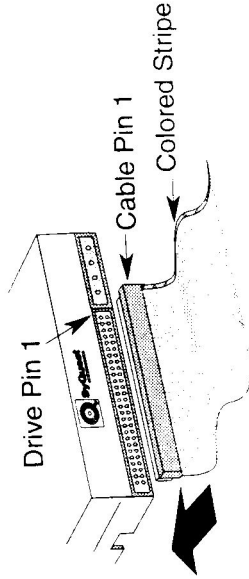

Figure 7. Connecting the 50-pin SCSI Cable to the Drive
5. Connect the 50-pin SCSI cable to the drive (refer to Figure 7). Make sure that pin 1 of the cable connector, indicated by the colored stripe, is aligned with pin 1 of the drive.